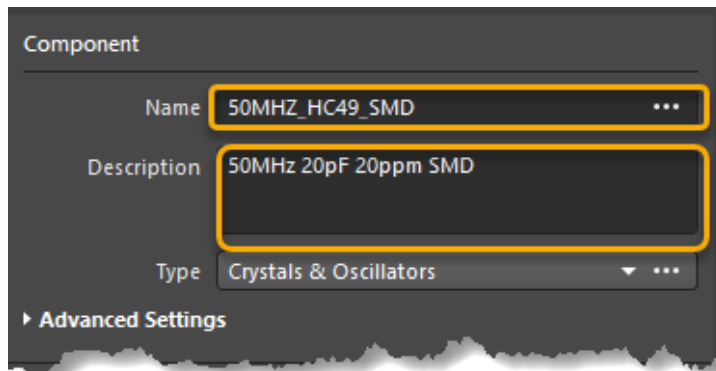

Figure 5. Component Name and Description
6. Using Figure 5 as reference, in the top of the *Component* section, add the following information: